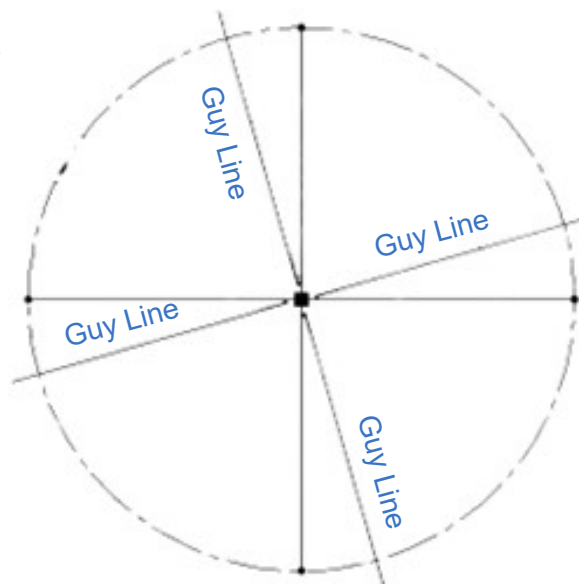

Figure 10-1 Lay Out Guy Lines
4. Prior to extending the mast, The Will-Burt Company recommends laying out any guy lines so they do not become tangled during extension (Figure 10-1).